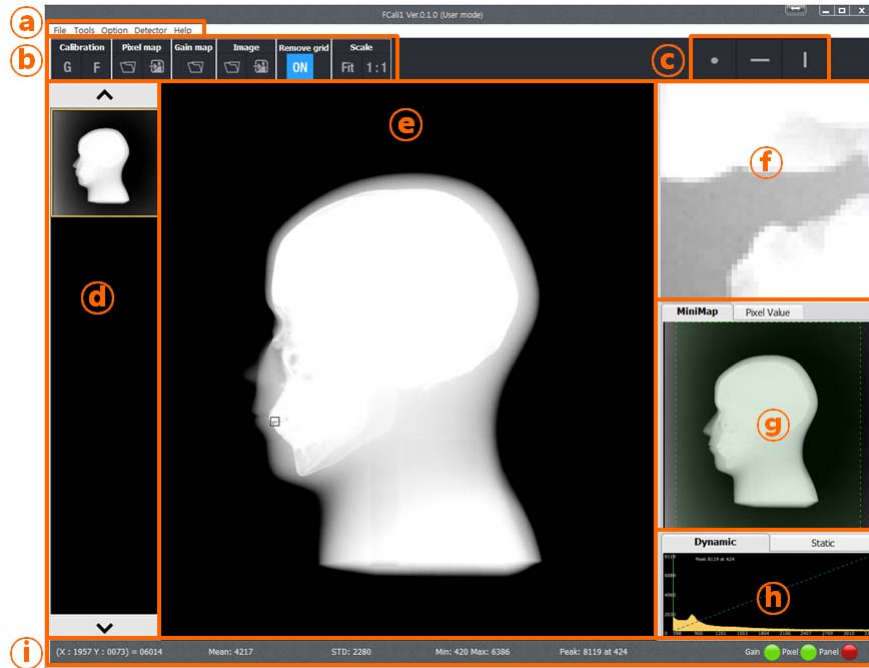

Figure 7.27. Main Screen of ECali1
Corresponds to @ in [Figure 7.27] and comprised of 5 menus, which are File, Tools, Option, Detector and Help.
Corresponds to © and ƒ in [Figure 7.27], and utilized when creating a Pixel Map.
Corresponds to ④ in [Figure 7.27].